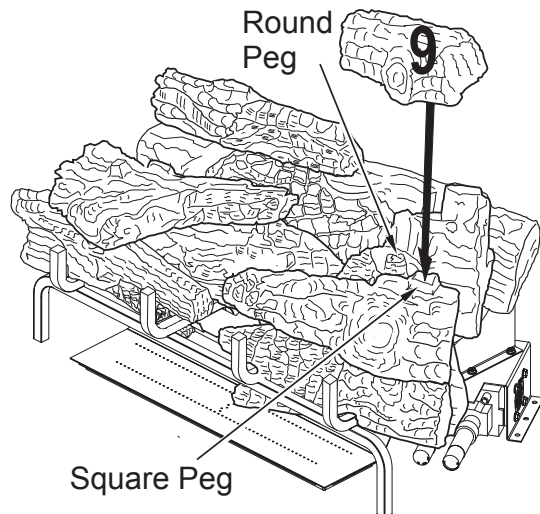

Figure 30 - Installing Log # 9
9. Place the top right log (#9) on top of the right rear chunk log (#7) and front right mid log (#8) as shown in Figure 30. Match the round peg on the top of the right rear chunk log (#7) with the round hole on the bottom of the top right log (#9) and square peg on the top of the front right mid log (#8) with the square hole on the bottom of the top right log (#9).